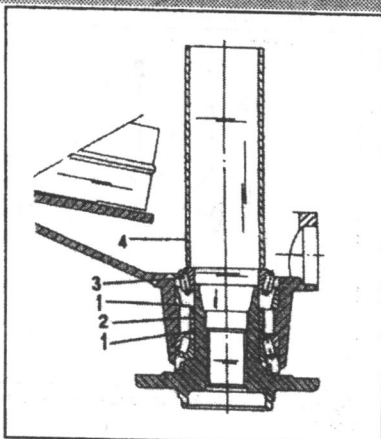

Fig. 5.13 — Final assembly of a steering knuckle.
- Fit the well greased inner bearing race (2) into the steering knuckle, using a suitable piece of tube and fit a new oil seal (1). A sectional view of the final assembly stage is shown in Fig. 5.13.